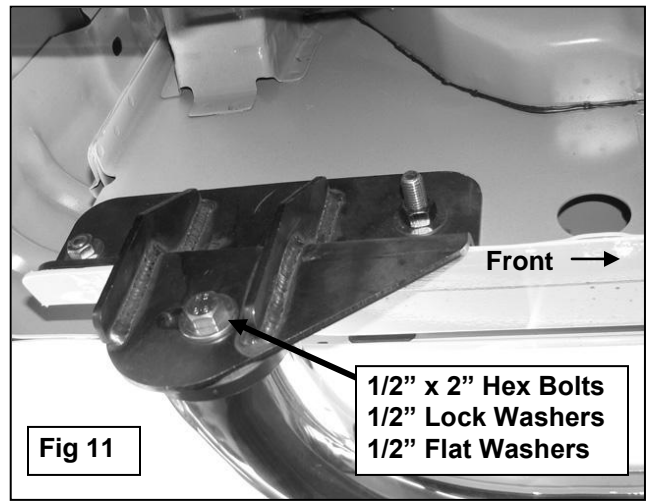

Fig 11
10. Attach the Sidebar to the Mounting Brackets using the included (2) 1/2" x 2" Hex Bolts, (2) 1/2" Flat Washers, and (2) 1/2" Lock Washers, **(Figure 11)**. Do not tighten hardware at this time.